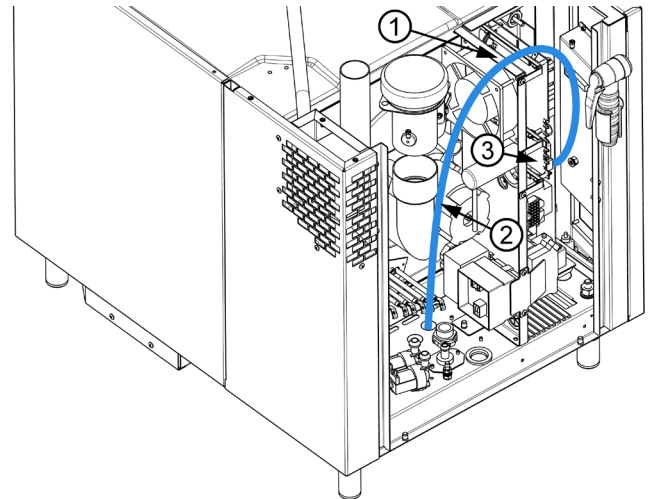

Figure 16: Route of UTP cable inside appliance 623
Run the UTP cable (2) over the upper edge of the electrical board (1) and down towards the relay panel (3), see fig. 16.